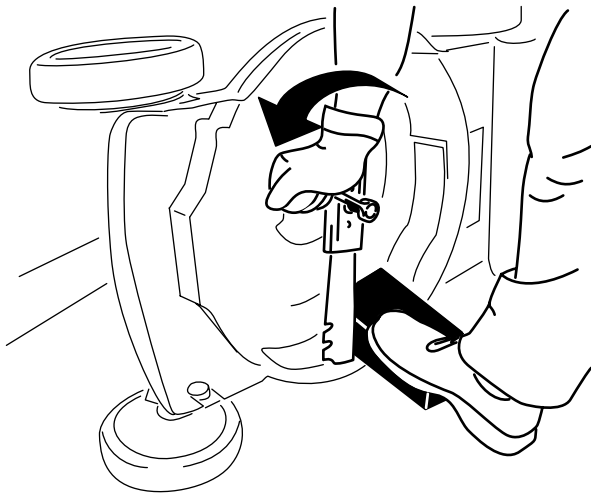

Figure 28
3. Use a block of wood to hold the blade steady (Figure 28).
4. Remove the blade, saving all mounting hardware (Figure 28).